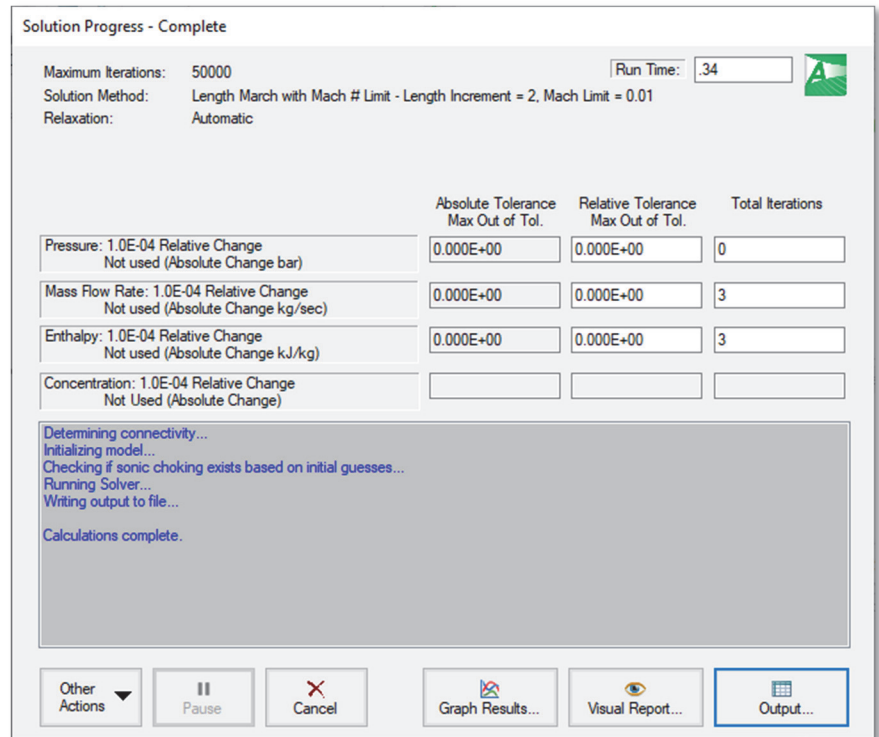
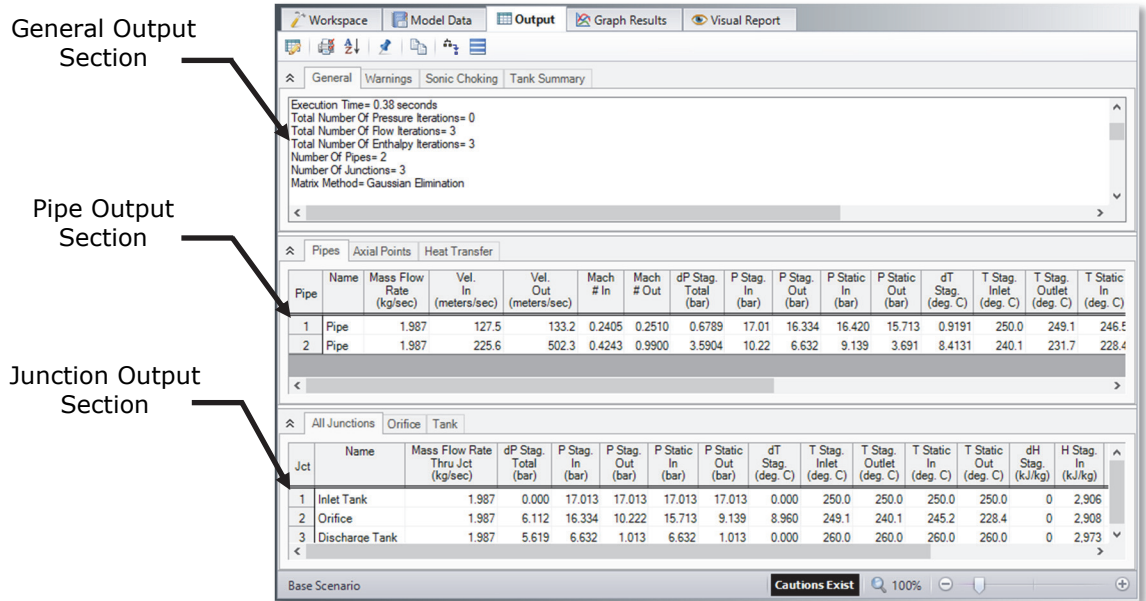

Figure 2.14 The Solution Progress window displays the convergence progress
Figure 2.15 The Output window displays output in text form
- Choose “Run Model” from the Analysis menu or click the arrow icon on the Main Toolbar. During execution, the Solution Progress window displays (see Figure 2.14). You can use this window to pause or cancel the Solver's activity. When the solution is complete, click the Output button and the text-based Output window will appear (see Figure 2.15). The information in the Output window can be reviewed visually, saved to file, exported to a spreadsheet-ready format, copied to the clipboard, printed to an Adobe PDF file, and printed out on the printer.
The Output window (Figure 2.15) is similar in structure to the Model Data window. Three areas are shown, and you can expand or collapse each area by dragging the boundary between the areas up or down, or by clicking the arrow beside the area label. The items displayed in the tables are those items you choose in the Output Control window.